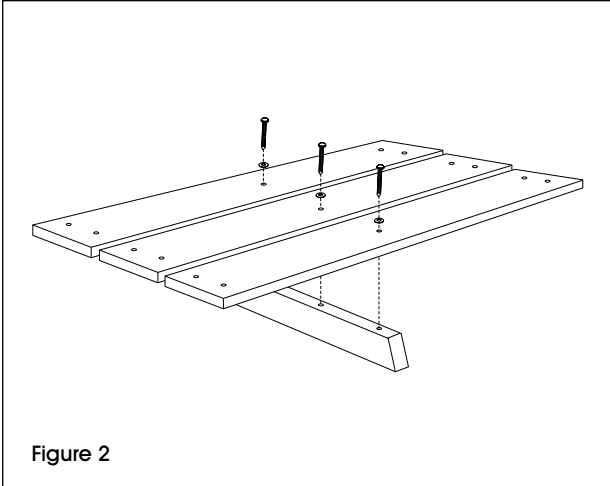

Figure 2
5. Align the middle pre-drilled holes of tabletop boards to the table top support (different angle). Attach 3½" lag screws and washers using the power drill and 7/16" socket bit. (See Figure 2)